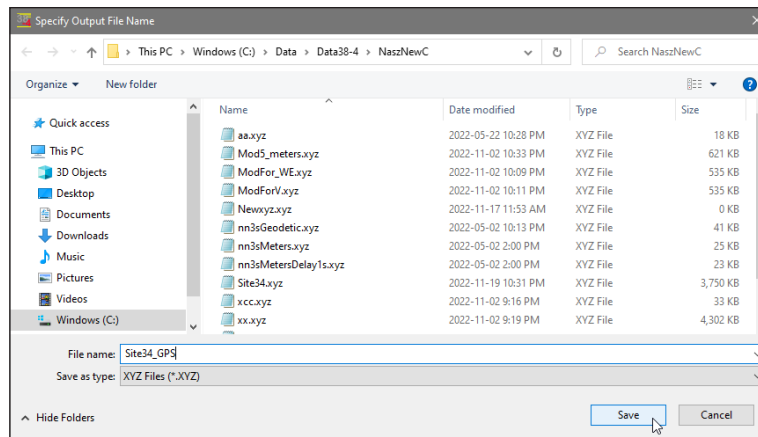

Figure 7.8 Select XYZ File dialog
- Click the **File** button to open the **Select XYZ File** window (Figure 7.8).